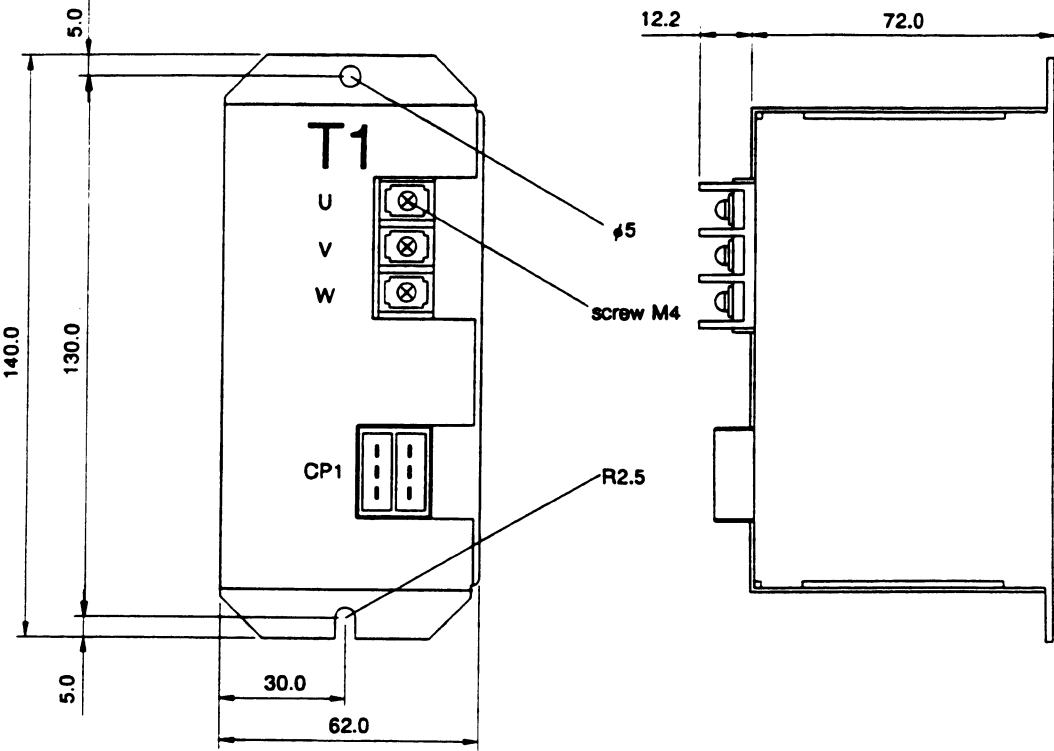

Fig. 5 External View of Dynamic Brake Unit (A06B-6070-H600)
- Fig. 5 ..... External view of dynamic brake unit